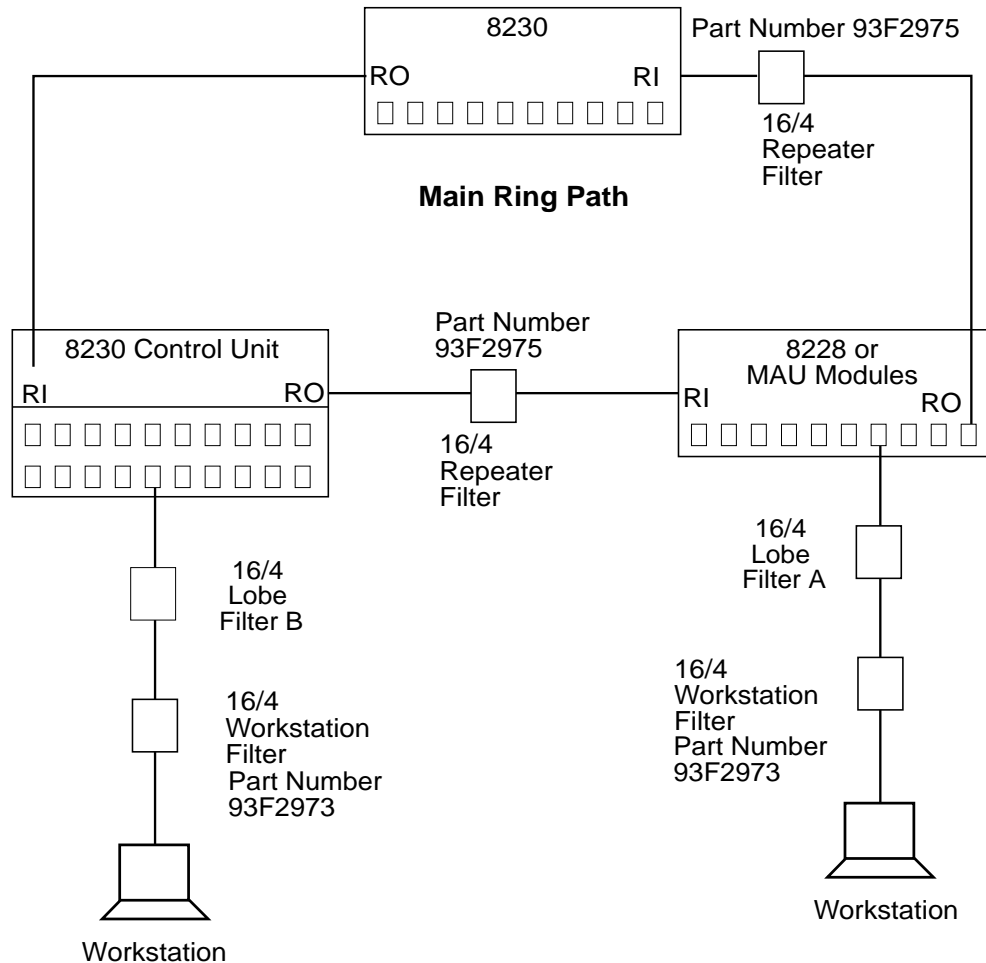

Figure 31. Repeater Unshielded Media Filter Placement
- The repeater unshielded media filter must be installed at the RO port of any 8230 that, in the main path, precedes 8228s/MAU modules that attach UTP lobes, and at the RI port of any 8230 that, in the main ring path, follows 8228s/MAU modules that attach UTP lobes (see the example given in Figure 31 on page 69).